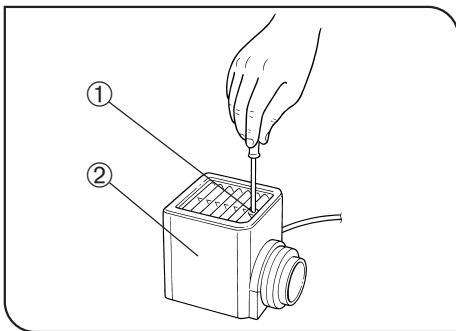

Fig. 14
(Figs. 14 to 16)
5. Fit the lamp housing ② from above and tighten the clamping screw ① while pushing down the screw by force. (Fig.14)